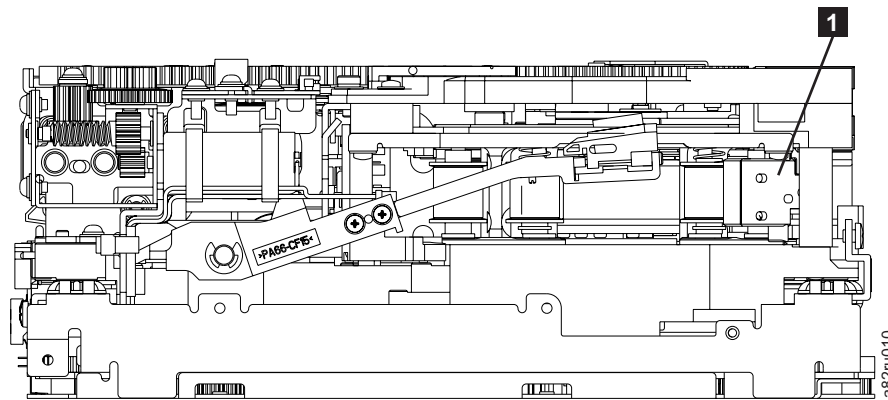

Figure 8-83. Leader Block Assembly (LBA)
9. Rotate the threader motor worm gear (**4** in Figure 8-82 on page 8-86) to turn the threader mechanism gear (**6** in Figure 8-82 on page 8-86) counterclockwise. This moves the LBA out of the cartridge and past the read/write head. Stop this rotation when the LBA is near the tape guide roller nearest the rear of the drive shown as **1** Figure 8-83.